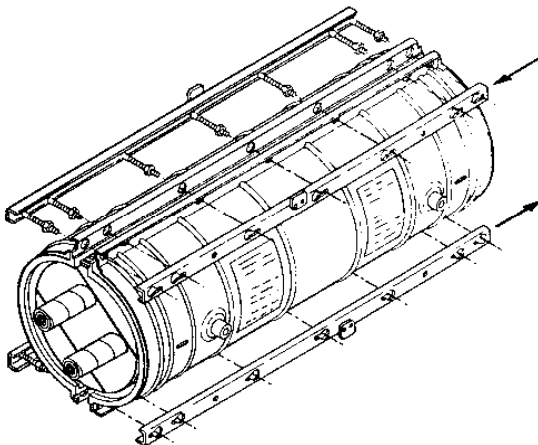

FIGURE 35 - LOCKBAR™ FASTENING
18.07 Install LOCKBAR Fastening system as shown in Figure 35. LOCKBAR Fastening consists of a (back) studded LOCKBAR Assembly with factory assembled threaded bolts and nuts, and a (front) key-hole LOCKBAR Assembly. The back LOCKBAR Assembly mates with the front LOCKBAR Assembly through the flange of the Splice Case shells, and then locks into position.